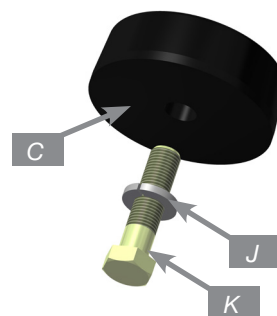
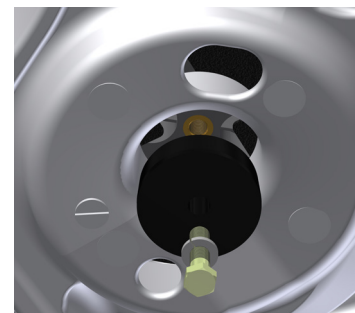

fig. 16
fig. 17
7. Seat the air spring within the lower control arm/roll plate and align the threaded center of the air spring with the lower spring seat. Apply a long bolt (K) and lock washer (J) through the centering spacer (C) and into the underside of the control arm (Fig. 16). Thread the bolt into the air spring (Fig. 17), and torque to 27Nm (20 lb.-ft.).